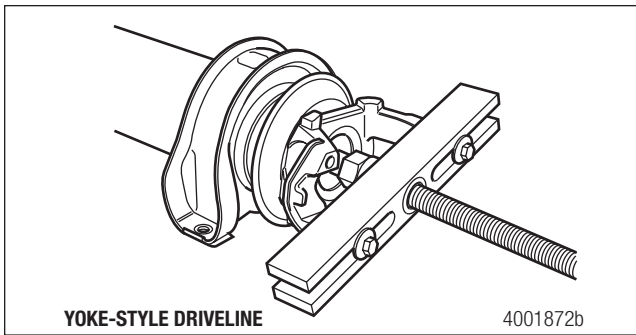
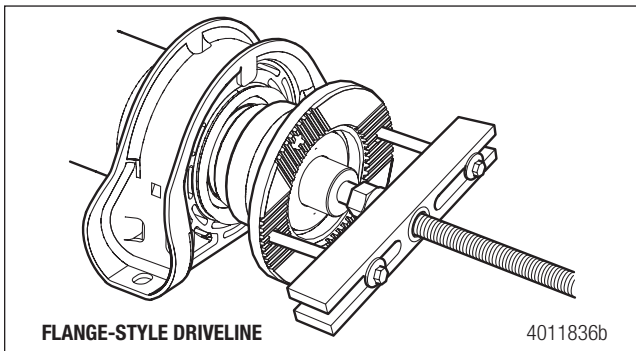

Figure 10.10
Figure 10.11
5. Place the driveline on a workbench. Use a puller to remove the center bearing end yoke or flange. Do not use a hammer. Follow the puller tool manufacturer's instructions. Figure 10.10 and Figure 10.11.